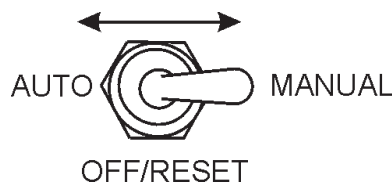

Figure 44. MPEC Control Switch (Manual Position)
8. Once the engine glow plugs have been warmed, place the **MPEC Control Switch** in the **MANUAL** position to start the engine (Figure 44).